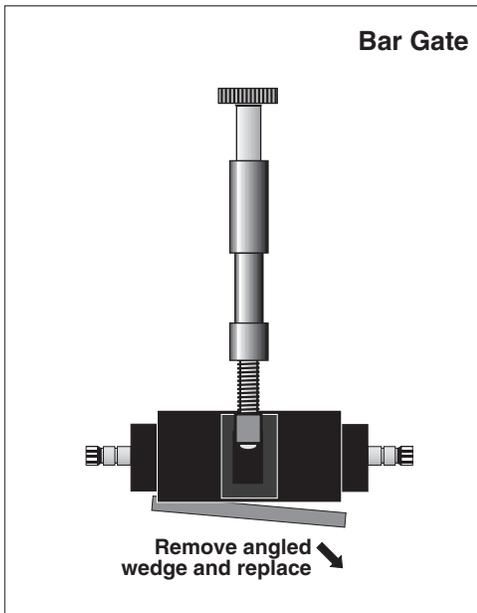

Figure 41. Replacing Worn Angled Wedge
4. Use a pliers to grip and remove angled wedge. See Figure 41.